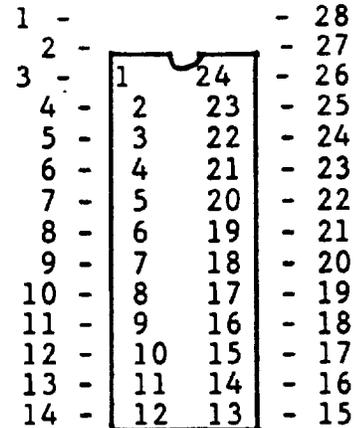

Figure 11. Shows the location of 24 PIN IC2 in 28 PIN socket.
*NOTE: IC2 has only 24 pins but it is being inserted into a 28 pin IC socket. Notice the printed marking on the printed circuit board. The IC should be inserted accordingly. Refer to fig.11.